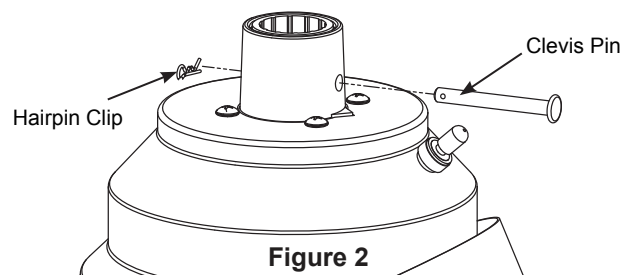
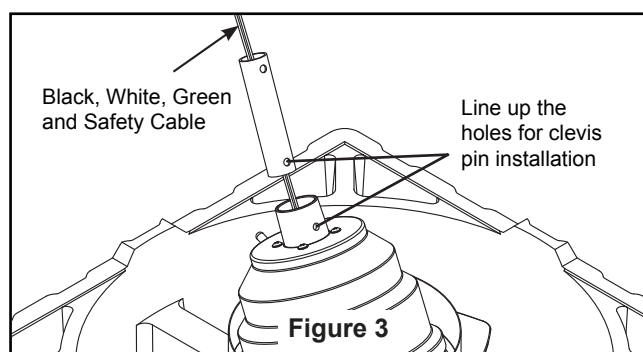
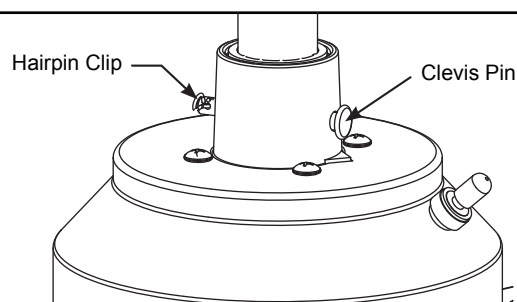

Figure 2
Figure 3
Figure 4
Your new ceiling fan will require a grounded electrical supply line of 120 volts AC, 60 HZ, 15 Amp Circuit. Electrical code requires use of a fan-rated outlet box to support the extra weight and motion associated with a ceiling fan. A fan-rated box will be labeled as such and typically supports up to a 70lb ceiling fan. Fan-Rated Outlet Boxes vary in ratings and design. Ensure the ratings of your ceiling fan outlet box meet the requirements for the ceiling fan being installed. Figure 1, Figure 2 and Figure 3 depicts different structural configurations that may be used for mounting the outlet box.
Deep box (Figure 2)
Deep box with brace (Figure 3)
- ☐ 1. Remove the hairpin clip and clevis pin from the bottom of the downrod support. Retain the pin and clip for reinstallation in Step 3. (Figure 2)
- ☐ 2. The fan comes with black, white and green wires, as well as a safety cable. Separate and untwist the wires. Route the wires and safety cable through the downrod. (Figure 3)
- ☐ 3. Be sure to line up the holes while pushing the downrod into the downrod support prior to installing clevis pin and hairpin clip. (Figure 3 & Figure 4)